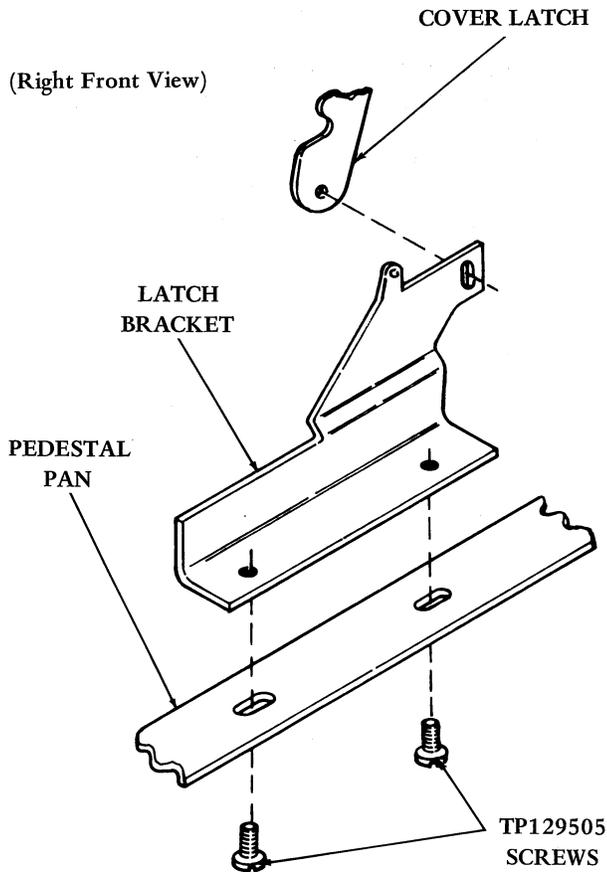

Figure 6 - Cover Latch Assembly
4.02 Remove two TP192274 pan head screws which secure the cover latch and replace them with two shorter TP129505 screws (Figure 6).